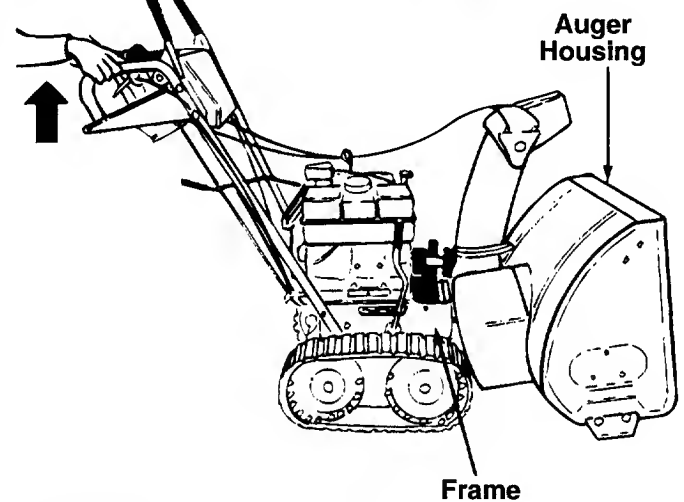

FIGURE 20.
- Separate the housing from the frame assembly by standing in the operating position and lifting up on the handles. The frame and housing will separate, and the rear auger drive belt will come off the pulleys. See figure 20.